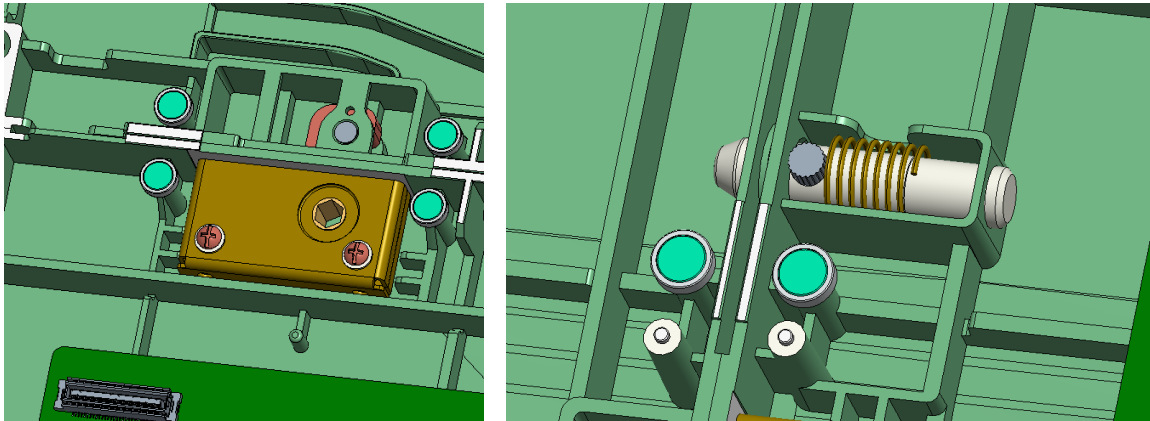
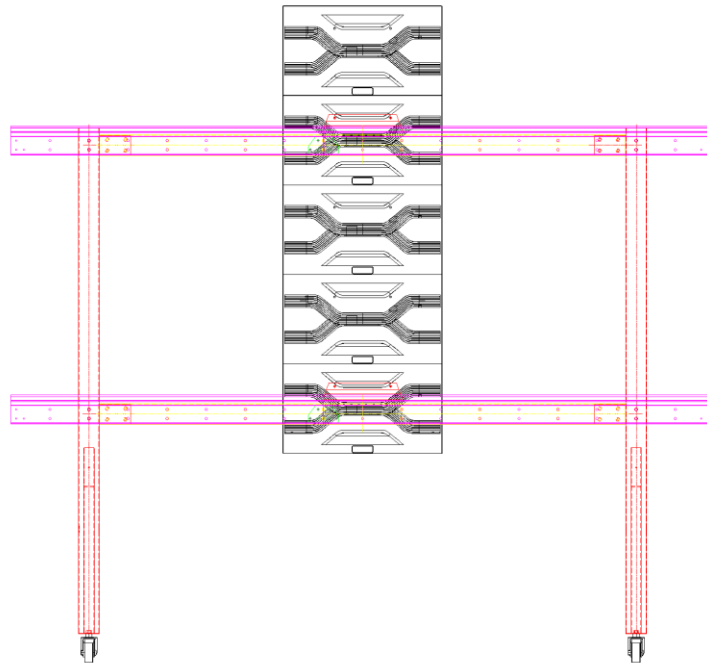
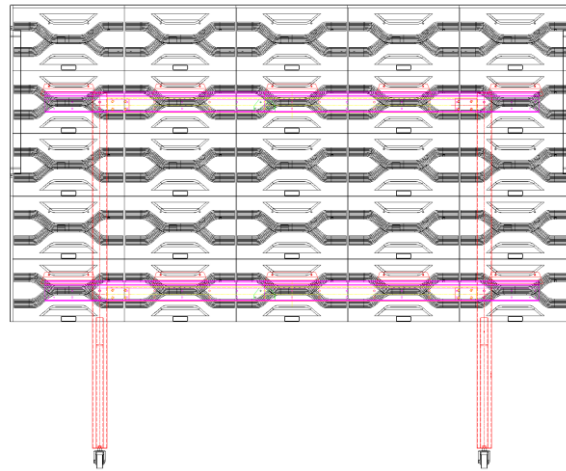

Figure 11
Figure 12: Viewed from back(Suitable for 135 inches)
Figure 13: Viewed from back
1. When individual columns are complete, hang them on the Hanging Bar starting with the center column (see Figure 12 & Figure 13) and adding additional columns to either side moving outward. Place columns in position next to each other with the spring latches of one column aligned to the holes of the adjacent column (see Figure 11).